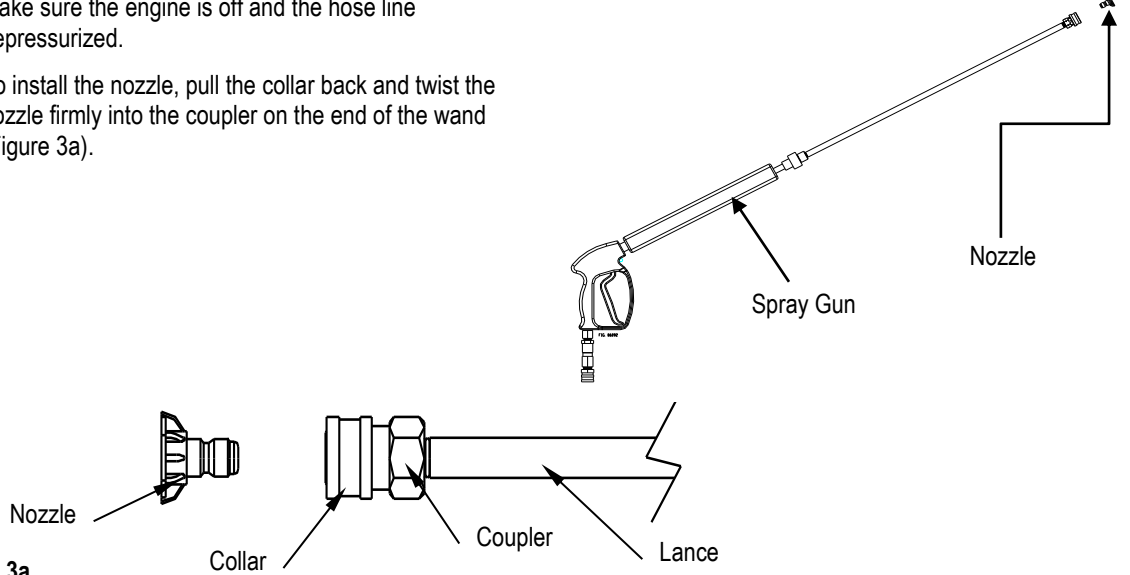

Figure 3a
- 2) To install the nozzle, pull the collar back and twist the nozzle firmly into the coupler on the end of the wand (Figure 3a).